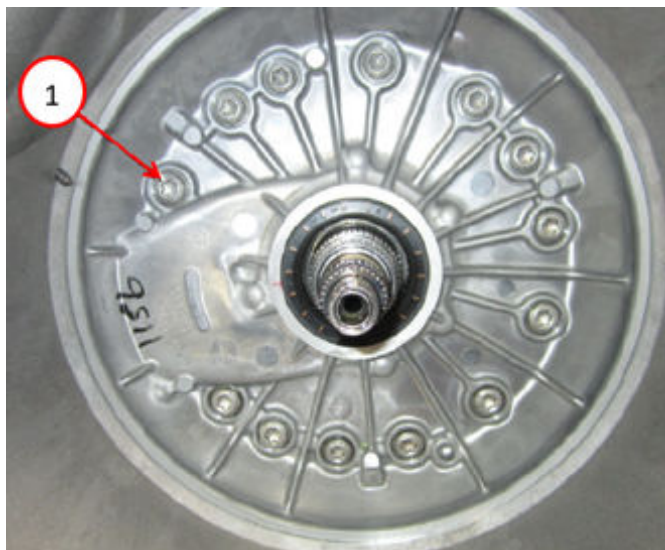

Fig. 39
60. Install NEW transmission oil pump assembly to case bolts Fig. 39.